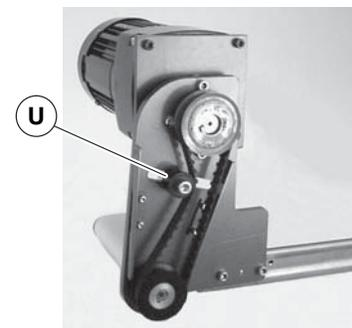

Figure 14
- Loosen tensioner (Figure 14, item U).
5. Loosen tensioner (Figure 14, item U).